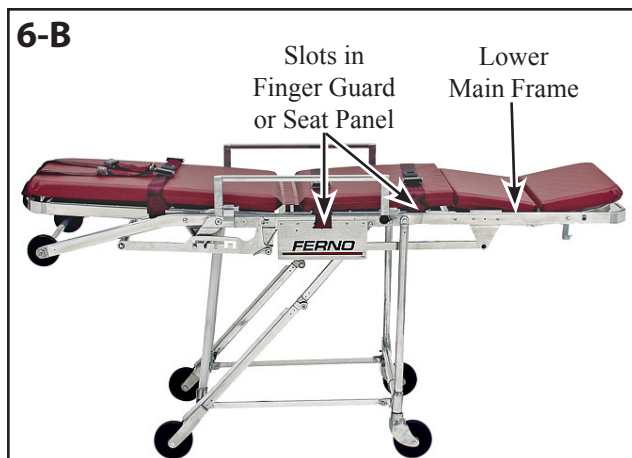

Figure 6 - Restraint Placement
- **Harness restraint (Figure 6-A):** Attach the shoulder straps to the backrest frame and the chest straps to the long, thin slots in the backrest panel.
- **Pelvis restraint (Figure 6-B):** Attach the straps to the slots in the finger guards **OR** to the long, thin slots in the seat panel. Follow your local protocols.
- **Leg restraint (Figure 6-B):** Attach the straps to the lower main frame. Follow your local protocols.